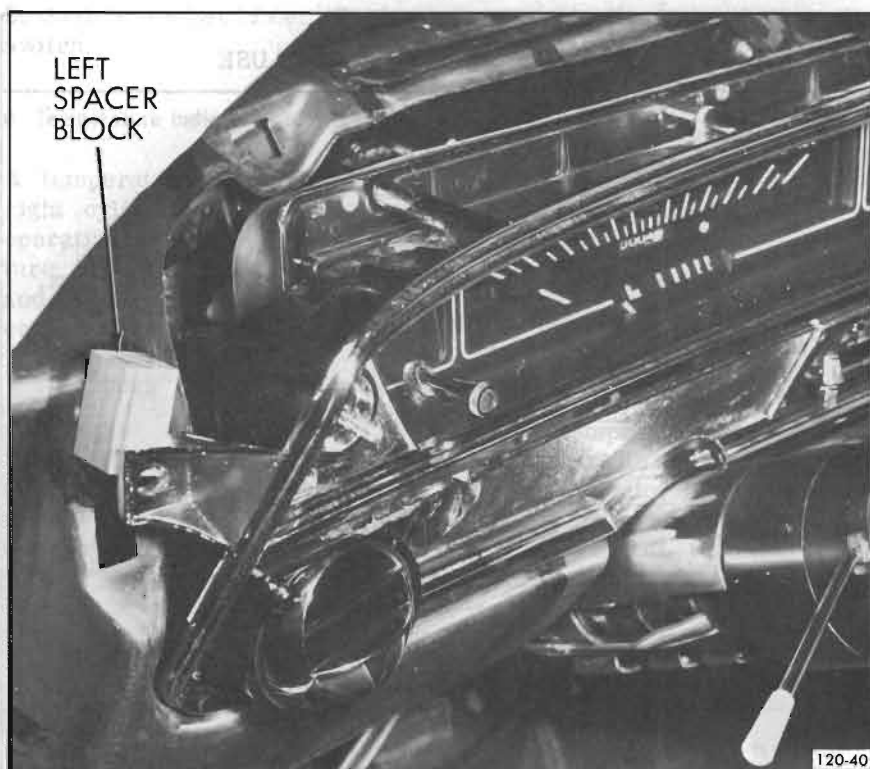

Figure 120-29—Tilting Housing Back
10. Tilt instrument panel housing back and place 1-1/2 inch spacer blocks under each end of housing at attaching points. See Figure 120-29.